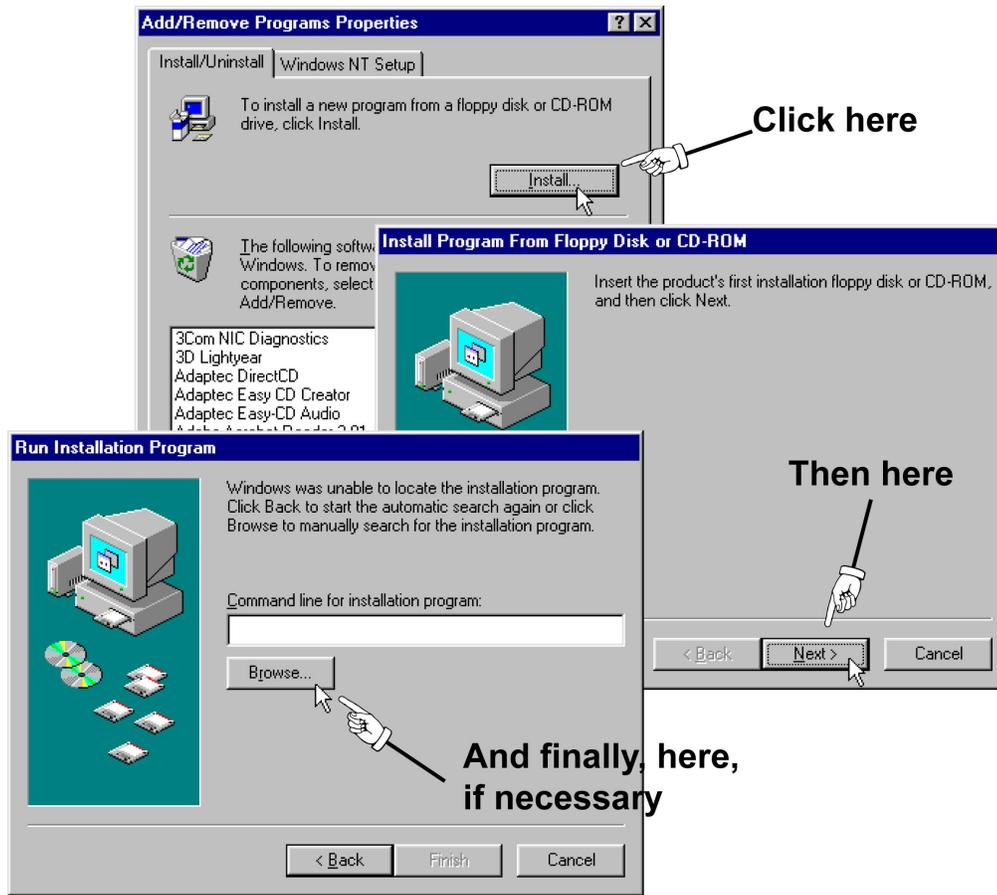

Figure 4. Click “Install”, then “Next”, then “Browse” (if necessary) to find the installation program for 3D Lightyear
- 4. From the Control Panel, open the "Add/Remove Programs" facility of Windows. You will see the dialog shown in the upper area of Figure 4.**
- 5. Click on the "Install" button as shown in Figure 4. The next dialog will prompt you to begin the Windows' function that scans your drives for installation programs or routines (see the middle dialog shown in Figure 4).**